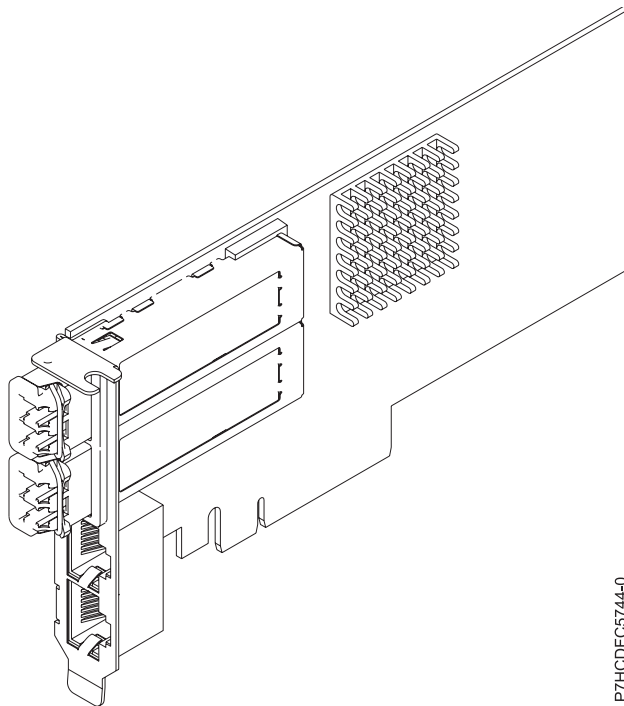

Figure 24. PCIe2 2x10GbE SR 2x1GbE UTP Adapter
The PCIe2 2x10GbE SR 2x1GbE UTP adapter is a PCI Express generation-2, four-port Ethernet unified wire adapter with a PCI Express 2.0 host bus interface. The adapter is optimized for cloud computing, virtualization, storage, and other data center applications. The four port adapter provides two 10 Gb Ethernet ports and two 1 Gb Ethernet ports. The two 10 Gb small form-factor pluggable (SFP+) single root (SR) transceiver ports are used for connectivity with other servers or switches in the network. Each SFP+ (SR) port provides Ethernet connectivity with a nominal data rate of 10 Gbps (gigabits per second), and uses the SFP+ copper twinaxial cables up to 5 m (16.4 ft) in length. Each of the RJ45 ports provides Ethernet connectivity at a data rate of 1 Gbps. The link aggregation and failover features of the adapter are ideal for critical network applications that require redundancy and high availability. Figure 24 shows the FC 5745 adapter.